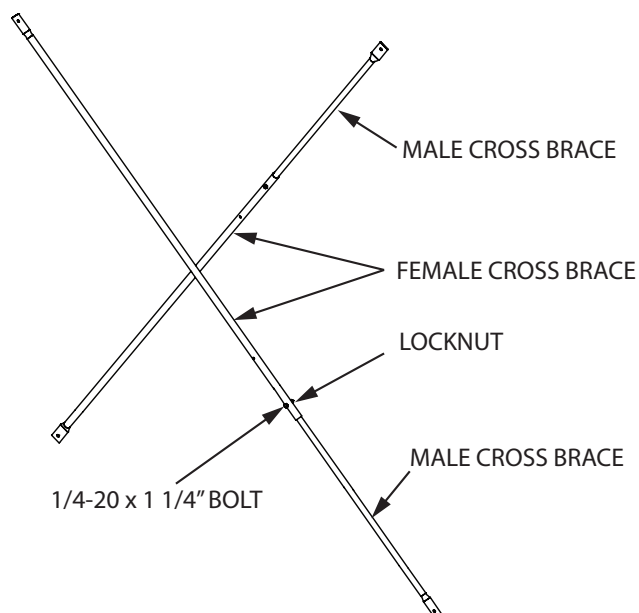

FIGURE 9
- Locate the (8) male cross braces (TP132) and the (8) female cross braces (TP131). Insert the male cross braces into the female cross braces.
- Using (8) provided 1/4-20 x 1-1/4" bolts and locknuts, secure the cross braces in the hole location listed in **FIGURE 9**. When assembled together, all eight cross brace assemblies should measure approximately 88-3/4" from end to end.